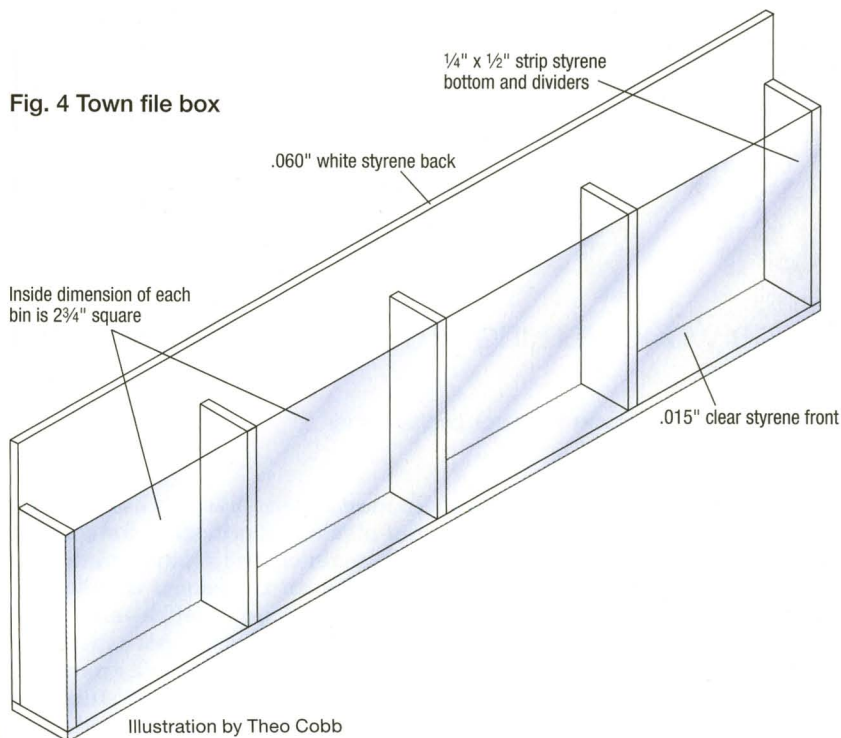

Fig. 4 Town file box
- 4. Build waybill files.** I made my own town files from styrene, as in **fig 4**.
I didn't find any commercially available file boxes to mount on the side of the layout for the town files, so I made them myself. Each compartment in the file boxes is  $2\frac{3}{4}$ " square and  $\frac{1}{2}$ " deep with a clear front. See **fig. 4**. This allows the waybills to stick up enough for easy handling. Since the waybills and pockets are slim, the  $\frac{1}{2}$ " depth holds plenty of them. I labeled each of these boxes with printed SET OUT, HOLD, OFF SPOT, or PICK UP labels on the same label stock used for the car pockets, as seen in the photo on page 62.